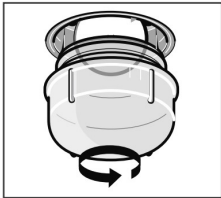

Figure 5
2. Turn the glass cover counterclockwise (Figure 5).